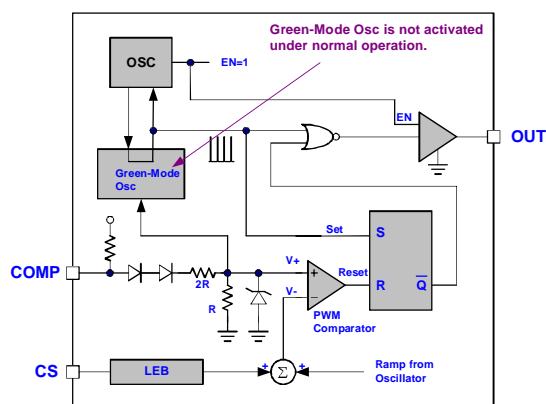

Fig. 10
What LD7552 used to implement the power-saving operation is Leadtrend Technology's own IP^②. In such approach, as shown in the block diagram, 2 oscillators are implemented in LD7552. The first oscillator is to take care the normal switching frequency, which can be set by the RT pin through an external resistor. Under this operation mode, as shown in Fig. 10, the 2nd oscillation (green-mode oscillator) is not activated. Therefore, the rising-time and the falling-time of the internal ramp will be constant to achieve good stability over all temperature range. Under the normal operation, this oscillator dominated the switching frequency.